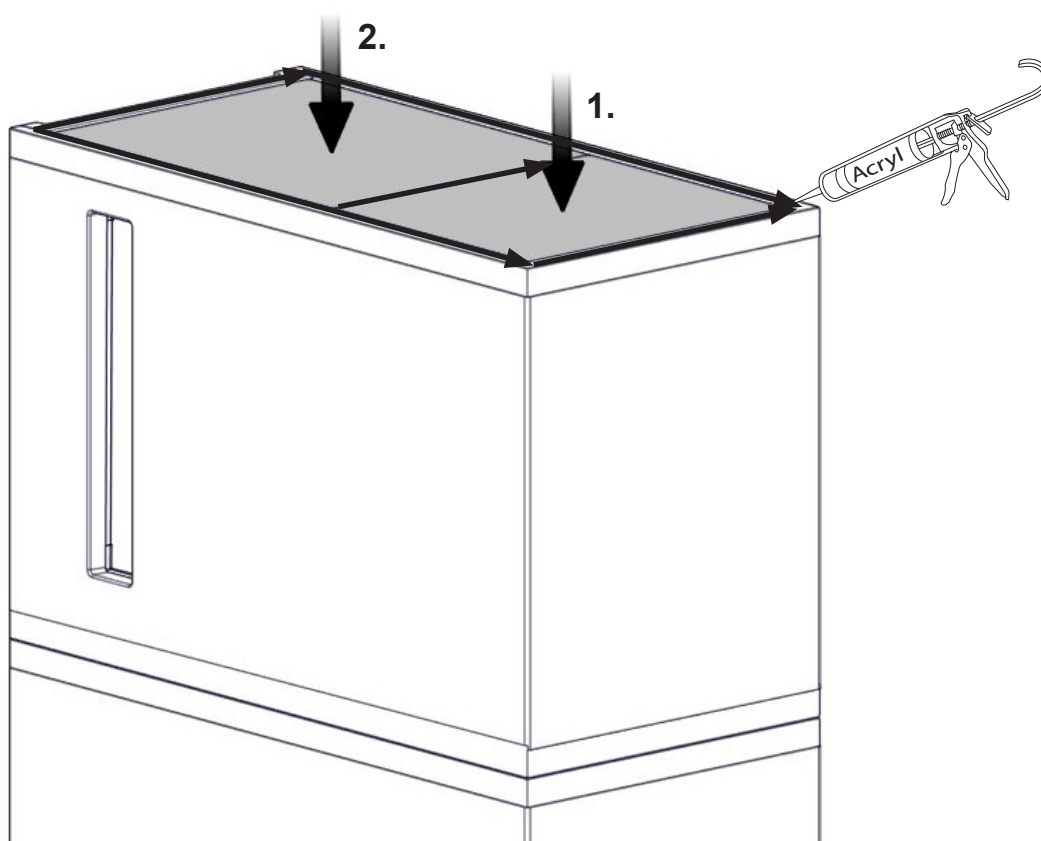

FIG 26
Extension part - optional (FIG 26 -26b)
FIG 26 a
**FIG 26 b** Davos P / PX High\_N-29P / PX